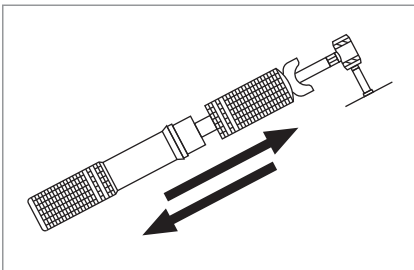

Figure 4
5. Pump using two hands until the desired pressure is reached (fig. 4).